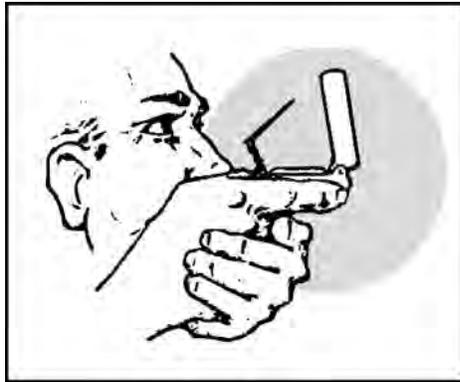

Figure C-21 Compass -to-cheek method
(1) Compass-to-cheek method (figure C-21). To use this method—